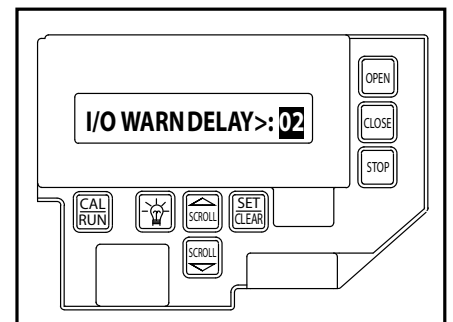

Fig. 5D I/O WARN Delay
3. Press SCROLL DN key again to shift to "I/O WARN DELAY > 02." (Fig. 5D).